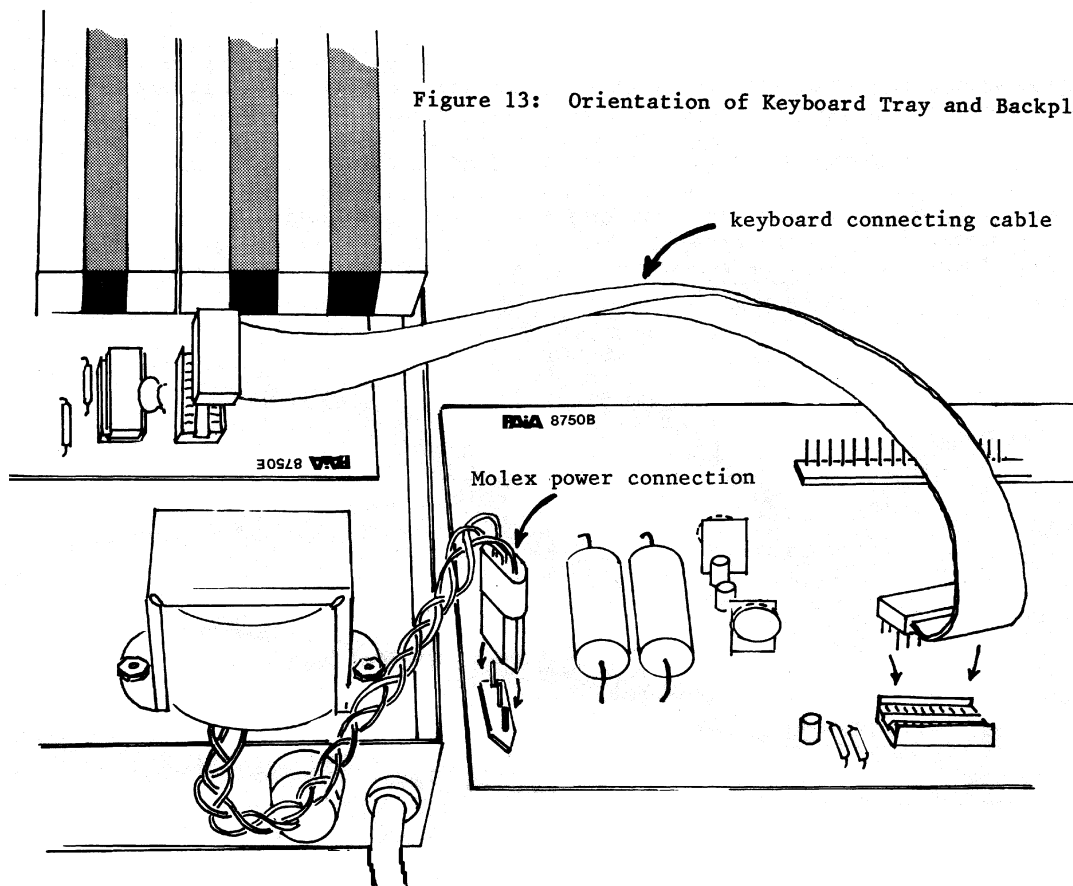

Figure 13: Orientation of Keyboard Tray and Backplane
- ①
- ( ) Referring to figure 13, orient the bottom tray and back-plane board on your work surface with the tray to the left with the keyboard keys facing away from you. The back-plane goes on the right and is oriented so that the conductor side of the board is down (best put a towel or similar insulating layer beneath the board to make sure that wire-clippings or solder blobs don't accidentally short conductors on the board). The graphics and parts placement legends on the component side of the board should be right-reading. Mate the Molex power connector on the leads coming from the transformer with the corresponding connector on the backplane board. (See figure 13) DO NOT INSTALL THE KEYBOARD CONNECTING CABLE AT THIS TIME (just in case there is some major problem there is no need to risk the encoder circuit board yet).
- ②
- ⑦
- ⑧
- ⑨
- ⑩
- ⑪
- ( ) Unplug the power supply from the wall outlet, and using the DIP header terminated flat cable supplied, make the connection between the KEYBOARD CONNECTOR socket on the back-plane and the OUTPUT CONNECTOR socket on the keyboard encoder. When properly installed, the cable coming from these headers will be on the side of the socket closest to the edge of their respective circuit boards (see fig. 13). With this connector in place, once again apply power and confirm that the slide switch is "on".
- ⑫